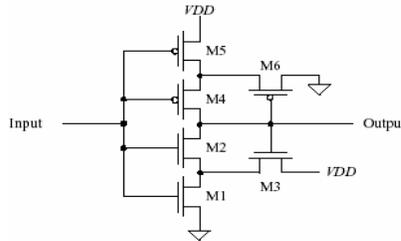

Figure 18.3 Schematic of the Schmitt trigger.
18.1) Given that we need to design a Schmitt Trigger (refer to Fig 18.3 below for schematic) having a $V_{SPH} = 0.55\text{ V}$ and $V_{SPL} = 0.35\text{ V}$. We start by finding the transconductance ratios for the upper and lower switching point voltages. This is done by using equations (18.4) and (18.6):